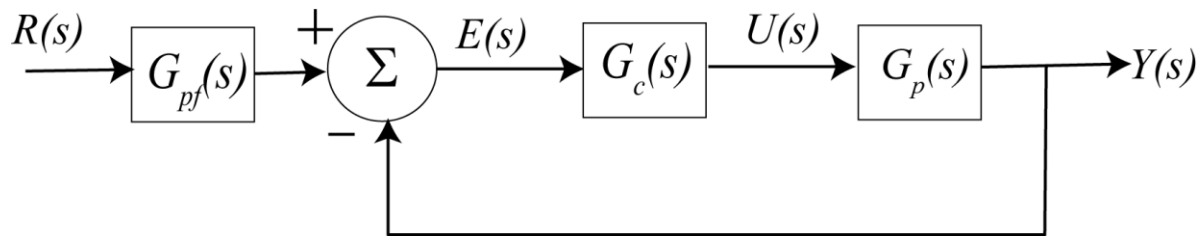

Figure 10: Basic feedback control loop with a prefilter
Sometimes when we use feedback control, we need to be able to adjust the steady state output value. This is very apparent in our first order system when we used a proportional controller. In that case, we were able to significantly change the settling time of the system, but the output did not equal the input. What we need is a proper scaling, and this is usually called a **prefilter**. Figure 10 shows our basic feedback loop with a prefilter. The prefilter can either be a transfer function or a constant. In this lab we will assume the prefilter is a constant, so  $G_{pf}(s) = G_{pf}$ . The purpose of the prefilter is to take the reference signal and scale it so that the input to the system matches the output of the system.
1. Modify the **closedLoop.mdl** Simulink model you created to match Figure 10 by adding a transfer function block in series with the input `rt`. The numerator is `num_Gpf` and the denominator is `den_Gpf`.